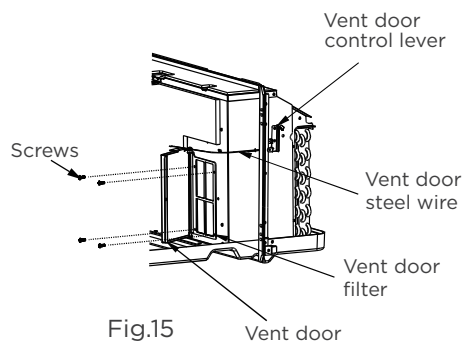

Fig.15
- Rotate the vent control lever to open the vent door. (See. Fig.15)
- Remove four screws from the vent door filter. (See.Fig.15)
- First pull out the vent door steel wire from the hole of the vent door, then take off the vent door and filter. (See.Fig.15)